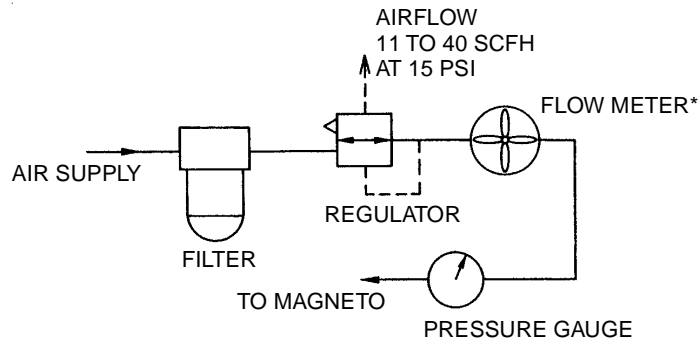

Figure 12
- B. Pressure Testing - After magneto reassembly, install a pressurized harness cap and apply 15 PSI filtered air to the inlet nozzle of the magneto. Air flow at 15 PSI should be 11 to 40 standard cubic feet per hour (SCFH). If flow is excessive, reposition gaskets and re-torque housing and harness cap screws. Screws should be torqued to 18-20 in.-lbs. See Figure 12 for Test Apparatus details. Testing should be conducted with magneto at room temperature.